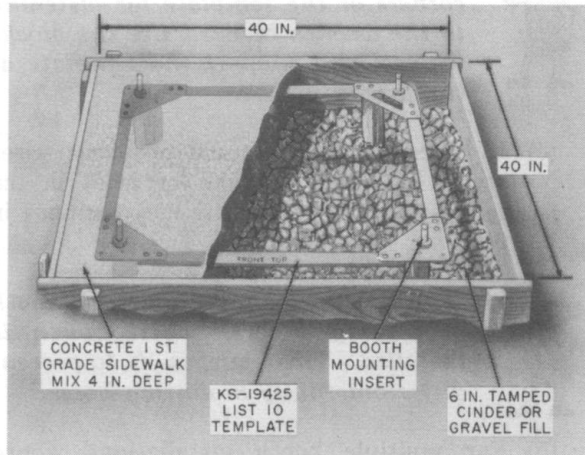

Fig. 11—Concrete Base Preparation with KS-19425, List 10 Template
- (1) Prepare a form 40 inches square with an inside depth of 10 inches (Fig. 11).
- (2) Tamp 6 inches of cinders or gravel in the bottom of form.
- (3) Position the template in the form on wooden blocks so that the top of four mounting inserts will be flush with top of concrete base as shown in Fig. 11.